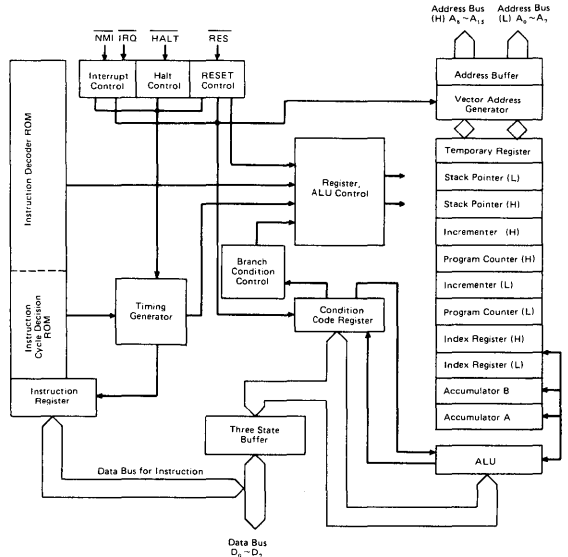

Figure 9 Internal Block Diagram of MPU
The condition code register indicates the results of an Arithmetic Logic Unit operation: Negative (N), Zero (Z), Overflow (V), Carry from bit 7 (C), and half carry from bit 3 (H). These bits of the Condition Code Register are used as testable conditions for the conditional branch instructions. Bit 4 is the interrupt mask bit (I). The unused bits of the Condition Code Register (b6 and b7) are "1". The detail block diagram of the microprocessing unit is shown in Fig. 9.
Proper operations of the MPU requires that certain control and timing signals (Fig. 9) be provided to accomplish specific functions. The functions of pins are explained in this section.